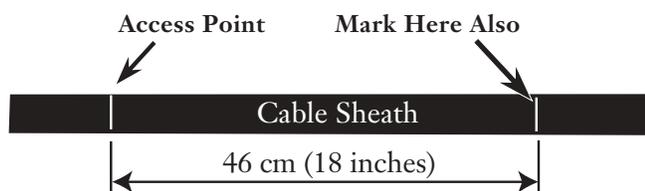

Figure 2
4.1 Use tape to mark the cable at the access point. Measure appropriate length (per instruction provided with your hardware) and mark access point. Refer to the sample illustrated in Figure 2.